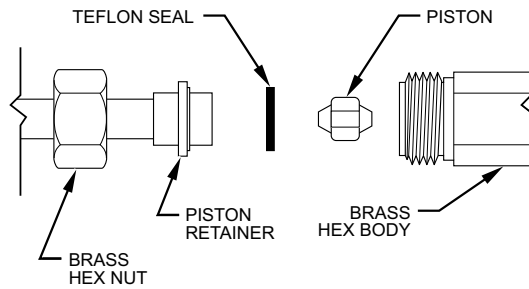

Fig. 28 – Refrigerant Flow-Control Device (For FB and FMA4P)
2. Recover remaining refrigerant from tubing and coil through gage port on vapor-tube service valve. Disconnect refrigerant (liquid) tube from piston body (Fig. 28).